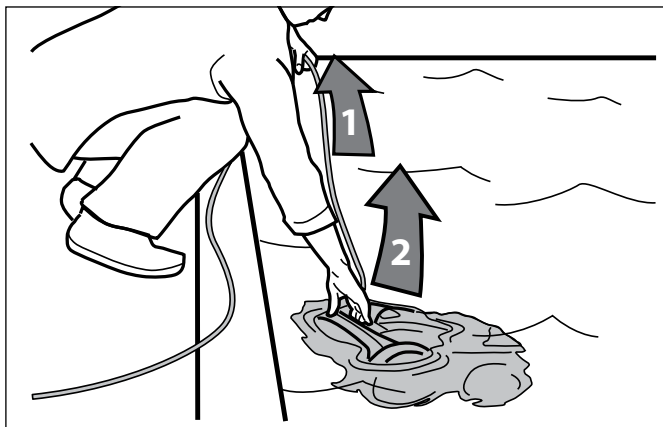

Figure 18. Remove Cleaner From Pool with Handle
2. When the cleaner is within arm's reach, use the handle to remove from the water (Figures 18, 19). Never lift the cleaner out of the pool by the floating cable.